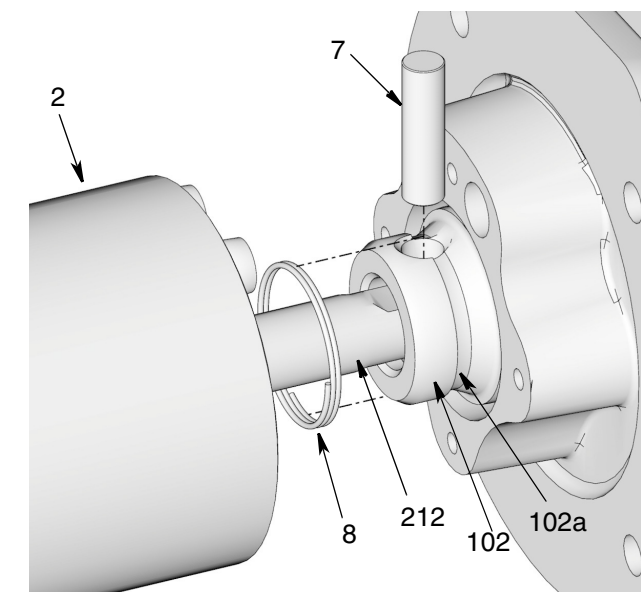

FIG. 24
11. Slide spring (8) out of groove (102a) in connecting rod (102) to expose pump pin (7) (FIG. 24). Push or tap pump pin (7) out of hole.